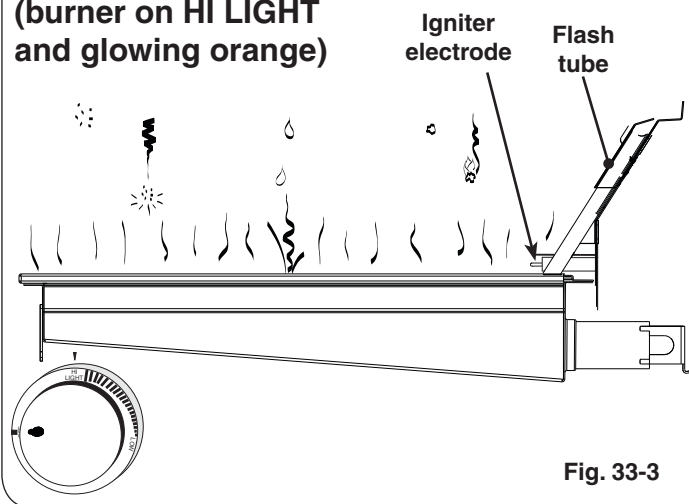

Fig. 33-3
- **DO NOT** place food on the cooking grid until the IR burner glows orange (Fig. 33-3). Drippings are heated and evaporate instead of sticking to and impairing burner function.